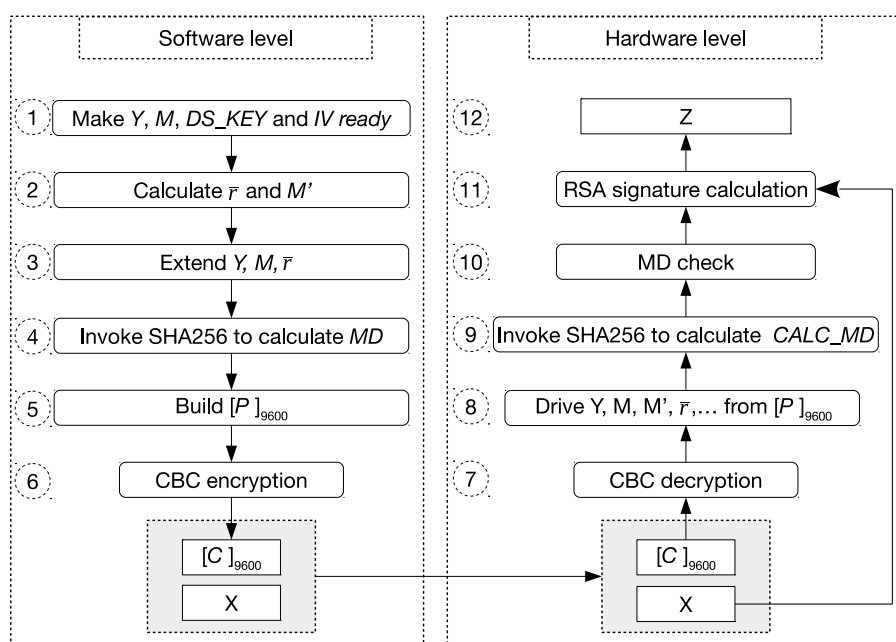

Figure 22-1. Software Preparations and Hardware Working Process
If users want to use the DS module, the software needs to do a series of preparations, as shown in Figure 22-1. The left side lists preparations required by the software before the hardware starts RSA signature calculation, while the right side lists the hardware workflow during the entire calculation procedure.
1. The software preparation (left side in the Figure 22-1) is a one-time operation before any signature is calculated, while the hardware calculation (right side in the Figure 22-1) repeats for every signature calculation.
Users need to follow the steps shown in the left part of Figure 22-1 to calculate  $C$ . Detailed instructions are as follows:
#### 1. Decryption: Step 7 and 8 in Figure 22-1
The decryption process is the inverse of Step 6 in figure 22-1. The DS module will call the AES accelerator to decrypt  $C$  in CBC block mode and get the resulting plaintext. The decryption process can be represented by  $P = \text{AES-CBC-DEC}(C, DS\_KEY, IV)$ , where  $IV$  (i.e.,  $[IV]_{128}$ ) is defined by the user.  $[DS\_KEY]_{256}$  is provided by the HMAC module, derived from  $HMAC\_KEY$  stored in eFuse.  $[DS\_KEY]_{256}$ , as well as  $[HMAC\_KEY]_{256}$  are not readable by users.
#### 2. Check: Step 9 and 10 in Figure 22-1
The DS module will perform two checks: MD check and padding check. Padding check is not shown in Figure 22-1, as it happens at the same time as MD check.
### 3. Calculation: Step 11 and 12 in Figure 22-1